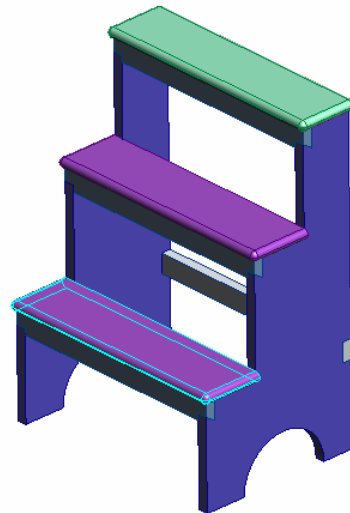

Figure 25. Completed Assembly
50. Figure 25 show the completed step stool. Save it and name it Step Stool Assembly.